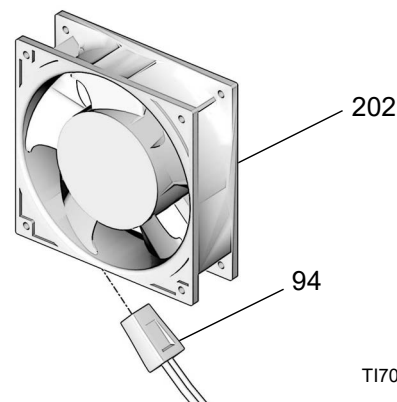

FIG. 62: Fan
3. Remove screws (10) and control board cover (61) to expose the control board (12).
4. Disconnect all cables and connectors from board (12).
5. Unplug cable (94) from fan (202). See FIG. 62, page 42.
6. Remove screws (13) and board (12).
7. Remove screws (10).
8. Feed proportioner cables out of grommet in the cart (1) and lift the cart off of the motor.